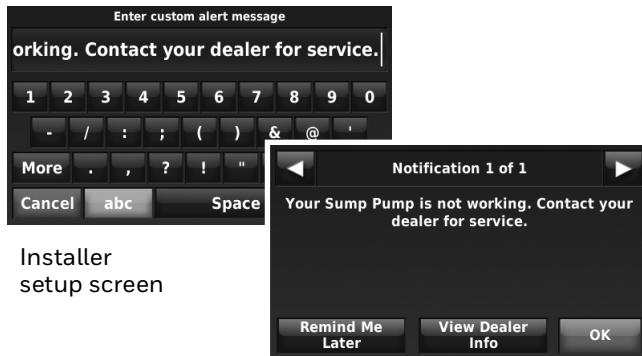

**Fig. 191.**
6. If you are creating a custom alert, type the alert name into the text box and press Done. The alert name is what appears on the Home screen when the alert is detected. See Fig. 191. You can edit or confirm the alert name after you enter it.